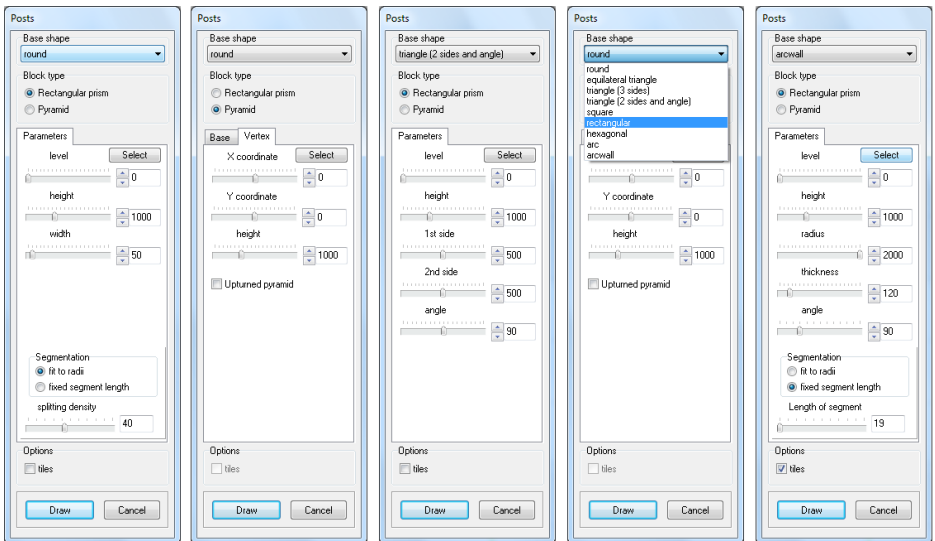

Fig. 134 – various variants of options available in Posts dialog
**Posts and walls** (available under icon ) are used for creating basic solids without preparing templates for them. They are cuboids or pyramids of different bases (also: upturned pyramids). This function of dynamic 3D modeling can be used for creating various decorative elements. Various objects: posts, columns, pilasters and partition walls of different kinds - are created on the basis of a single point indicated by the user directly after clicking the **Posts and walls** icon, and the parameters defined in the dialog displayed below (in all possible variants - Fig. 134).